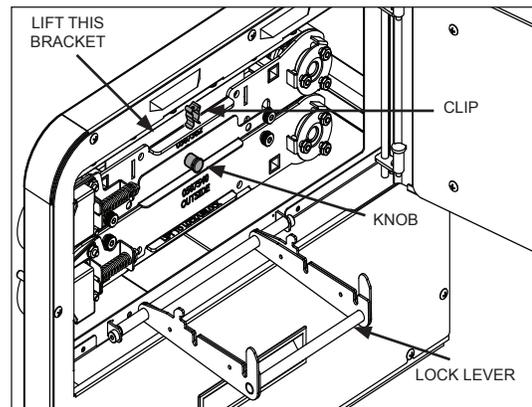

Figure 3.
8. Rotate the knobs shown in figure 3 half turn.
10. Disengage the lock lever by pulling it towards you while lifting up on the bracket (Figure 3)
8. Engage the lock lever as shown in Figure 3. Make sure the lock lever is properly inserted into the slotted grooves.
10. Reinstall the accessories (Figure 3).